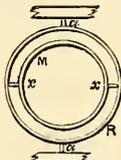

FIG. 270.
**Gimbals.**—The cross axes by which compasses, lamps, &c., are swung on board ship. Generally called "double gimbals." In Fig. 270 *a a* are the axes of the outer ring R, and *x x* of the inner ring M.